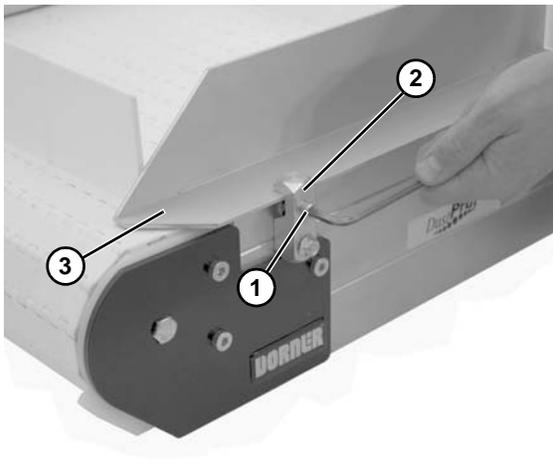

Figure 80
1. Loosen socket head screw (Figure 80, item 1) on guide bracket (Figure 80, item 2) and remove guide (Figure 80, item 3). Repeat on opposite side.